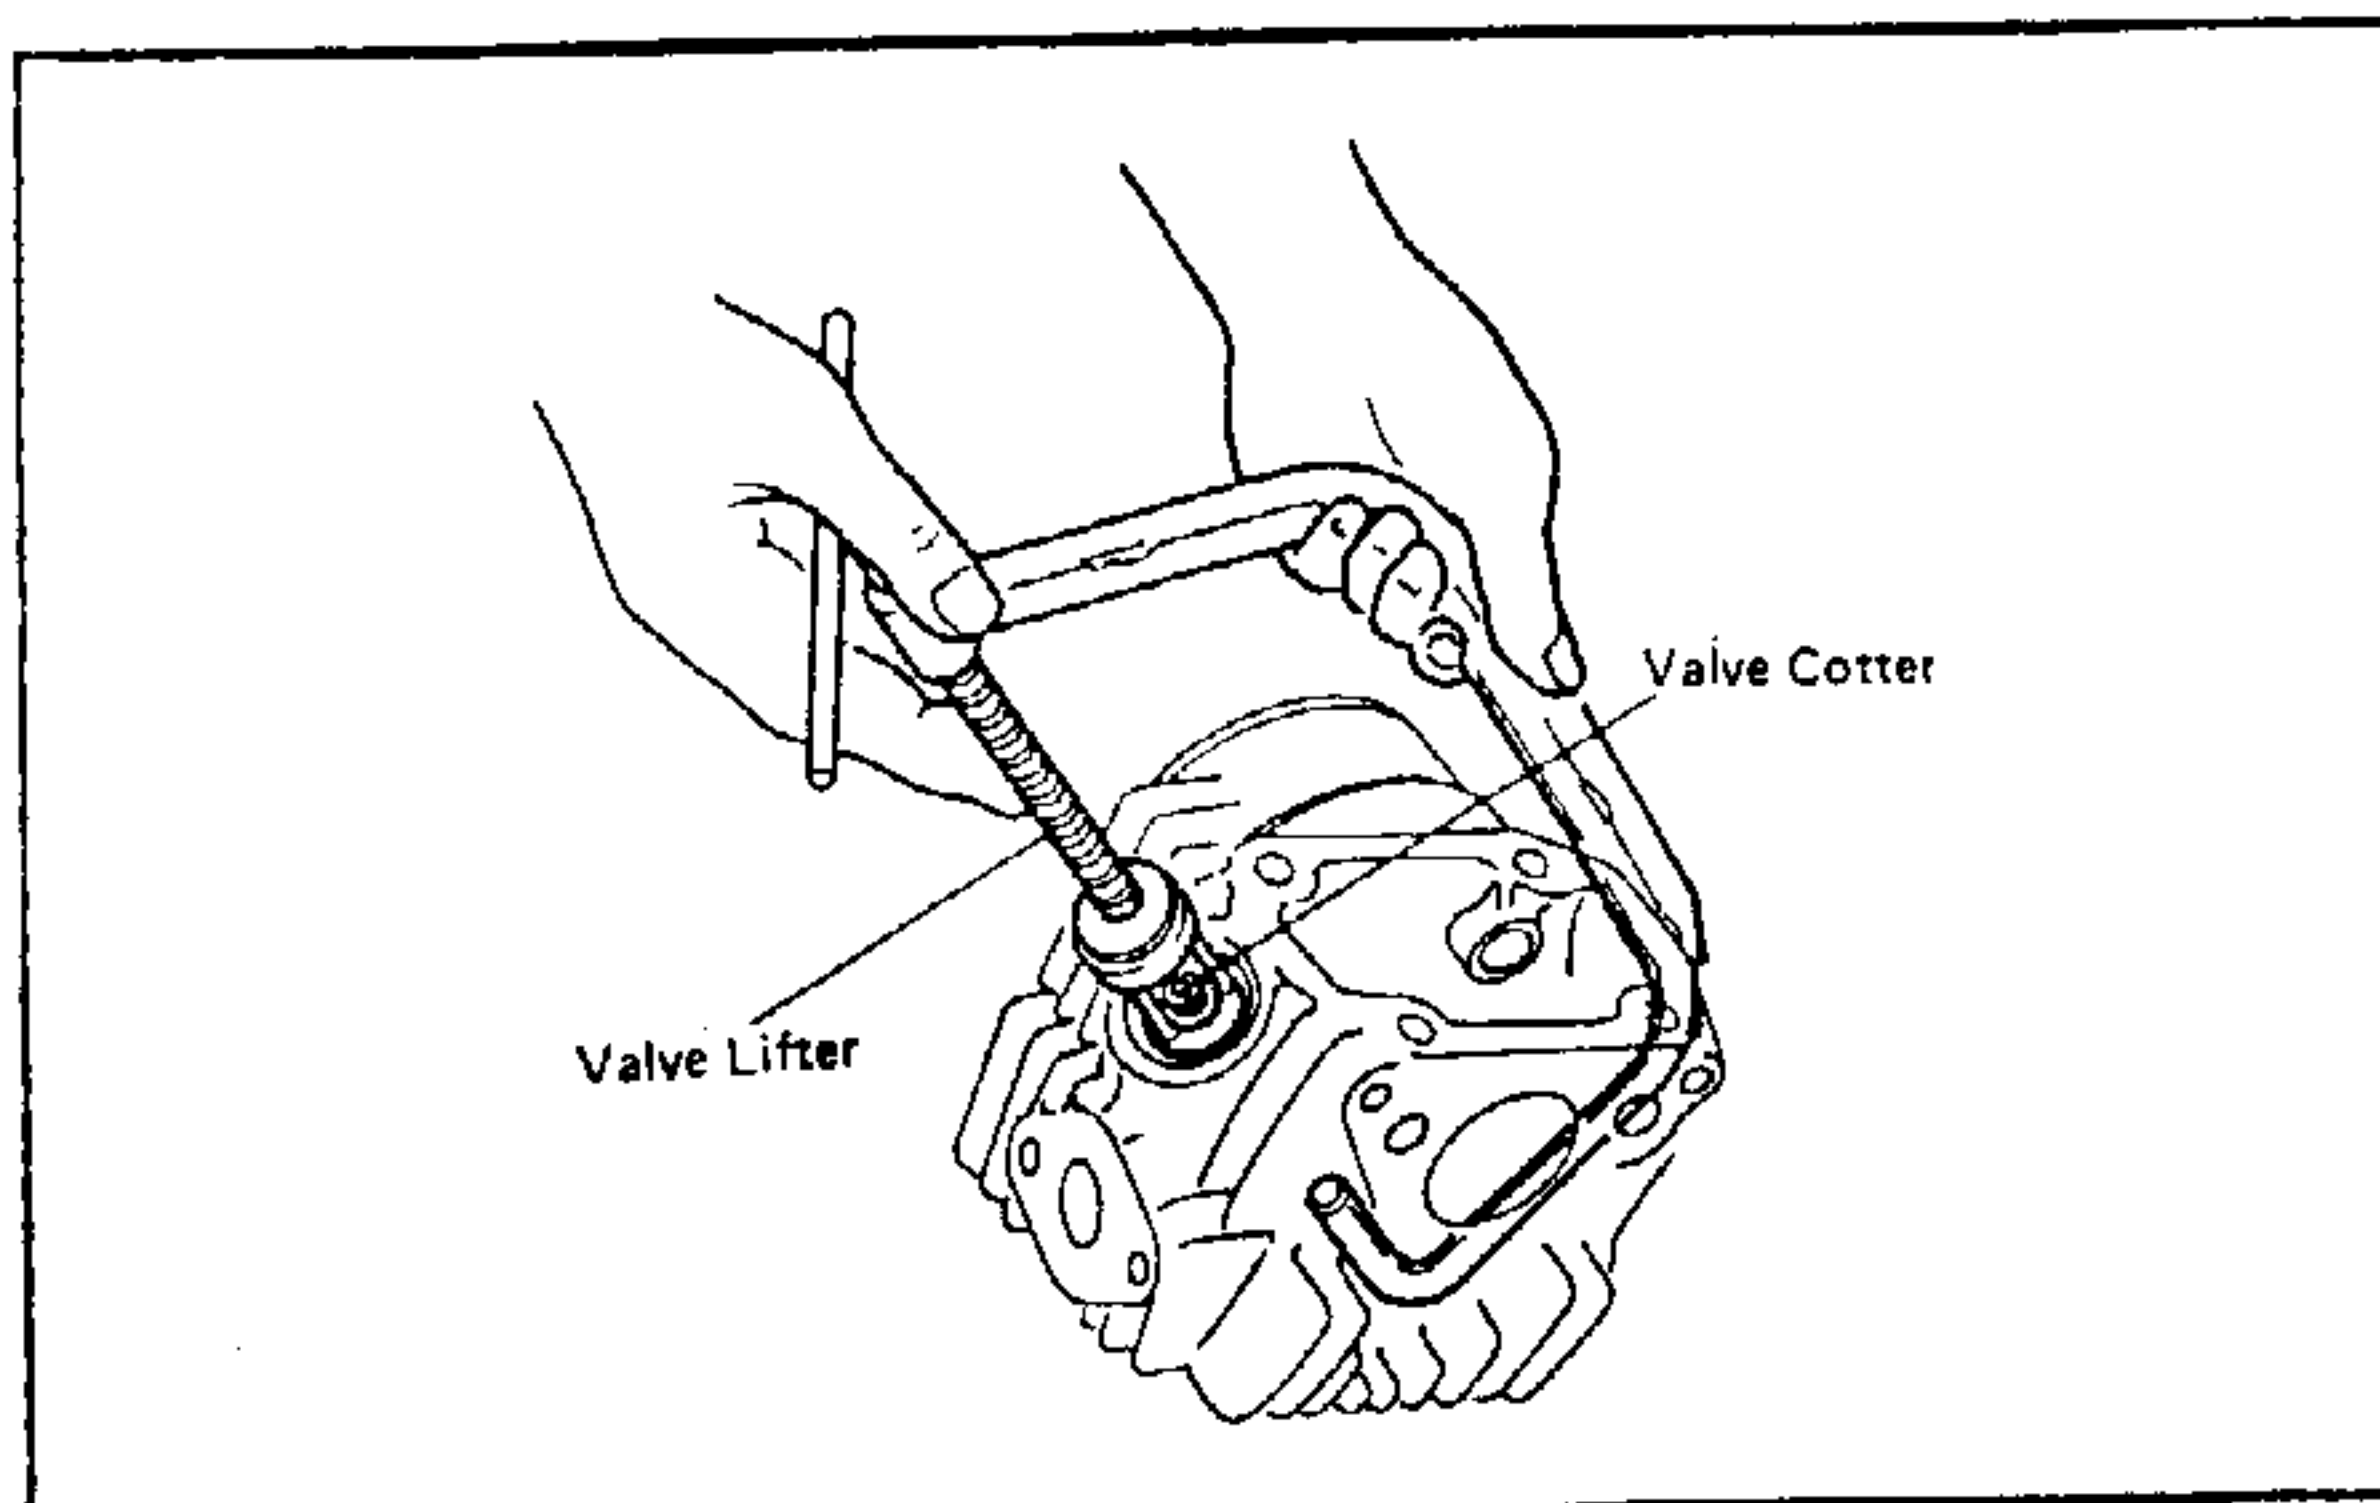

Fig. 16
10. Disassemble the valve with the valve removal tool (Tool No. 07957-3290000) (Fig. 16).